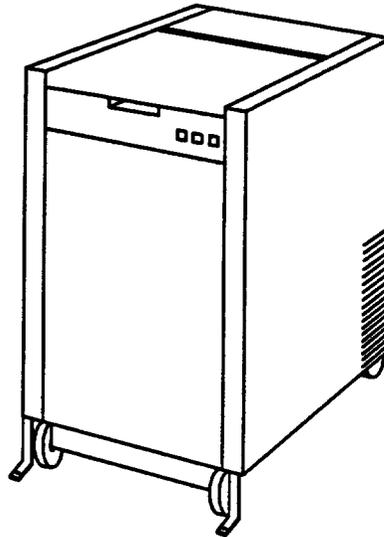

Figure 3. KS-22072, L2 Moving Head Disk Drive
2.06 Figure 3 illustrates the KS-22072, L2 disk drive.